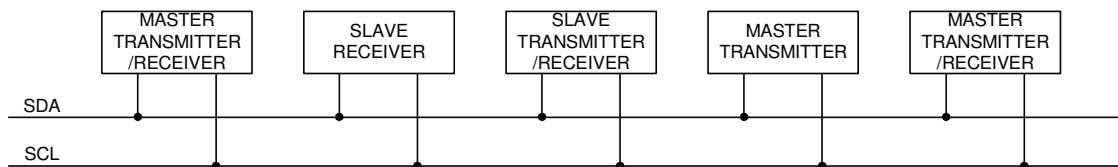
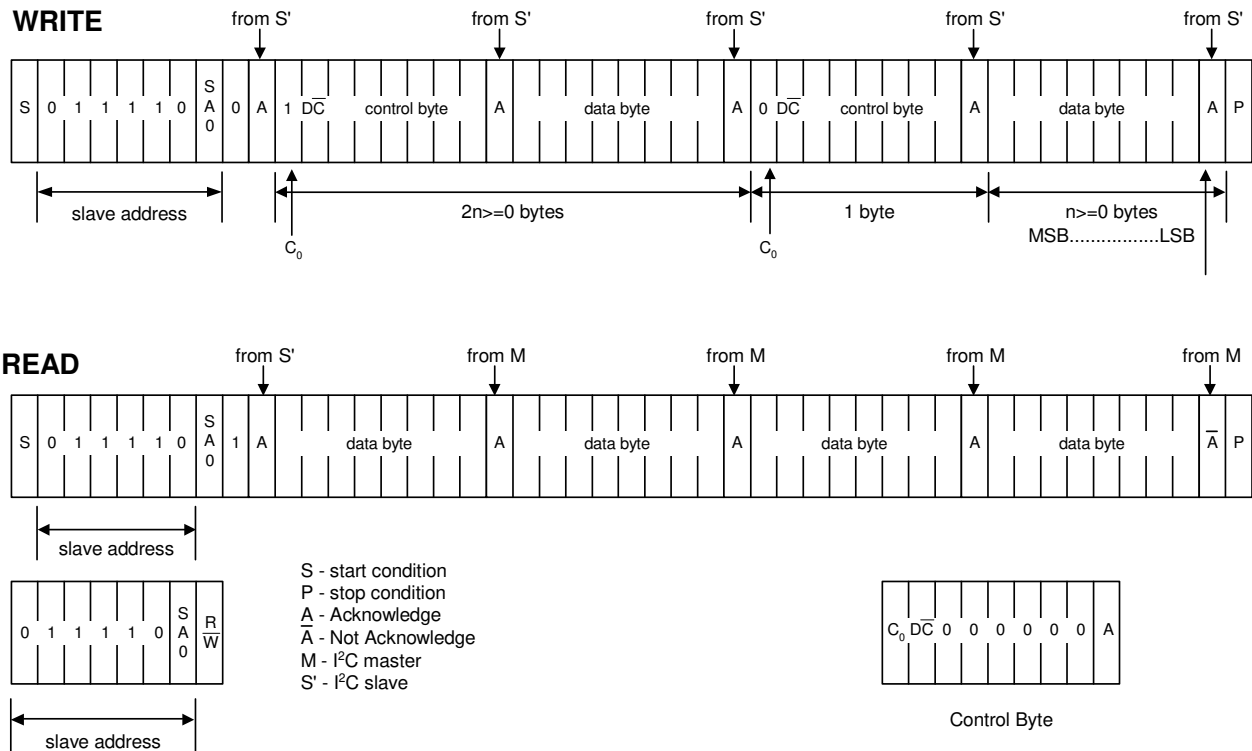

Figure 7 System configuration
Figure 9 I2C Protocol
The SH1107 supports both read and write access. The  $\overline{R/\overline{W}}$  bit is part of the slave address. Before any data is transmitted on the I2C-bus, the device that should respond is addressed first. Two 7-bit slave addresses (0111100 and 0111101) are reserved for the SH1107. The least significant bit of the slave address is set by connecting the input SA0 to either logic 0(VSS) or 1 (VDD). The I2C-bus protocol is illustrated in Fig.7. The sequence is initiated with a START condition (S) from the I2C-bus master that is followed by the slave address. All slaves with the corresponding address acknowledge in parallel, all the others will ignore the I2C-bus transfer. After acknowledgement, one or more command words follow which define the status of the addressed slaves. A command word consists of a control byte, which defines Co and  $\overline{D/\overline{C}}$  (note1), plus a data byte (see Fig.9). The last control byte is tagged with a cleared most significant bit, the continuation bit Co. After a control byte with a cleared Co-bit, only data bytes will follow. The state of the  $\overline{D/\overline{C}}$ -bit defines whether the data-byte is interpreted as a command or as RAM-data. The control and data bytes are also acknowledged by all addressed slaves on the bus. After the last control byte, depending on the  $\overline{D/\overline{C}}$  bit setting, either a series of display data bytes or command data bytes may follow. If the  $\overline{D/\overline{C}}$  bit was set to '1', these display bytes are stored in the display RAM at the address specified by the data pointer. The data pointer is automatically updated and the data is directed to the intended SH1107 device. If the  $\overline{D/\overline{C}}$  bit of the last control byte was set to '0', these command bytes will be decoded and the setting of the device will be changed according to the received commands. The acknowledgement after each byte is made only by the addressed slave. At the end of the transmission the I2C-bus master issues a stop condition (P). If the  $\overline{R/\overline{W}}$  bit is set to one in the slave-address, the chip will output data immediately after the slave-address according to the  $\overline{D/\overline{C}}$  bit, which was sent during the last write access. If no acknowledge is generated by the master after a byte, the driver stops transferring data to the master.